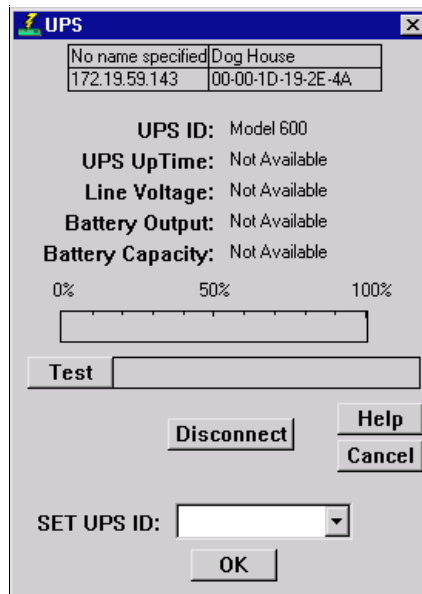

Figure 2-16. The UPS Window
2. Select **UPS**. The UPS window, Figure 2-16, opens.